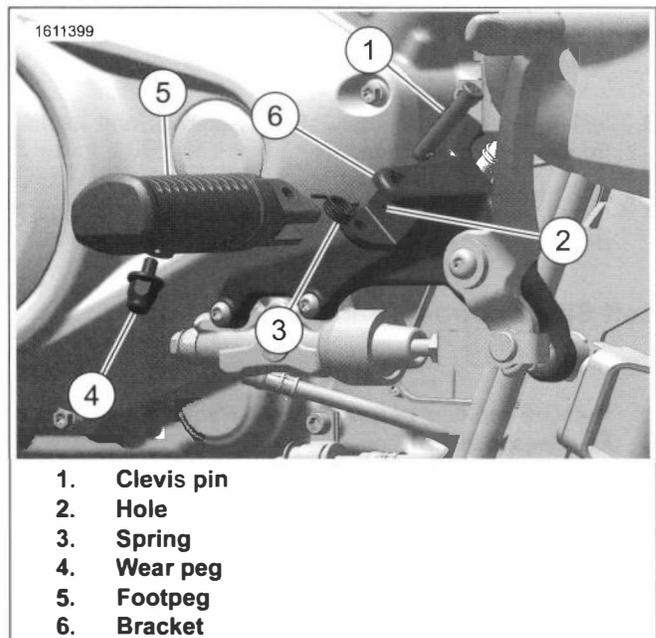

Figure 3-97. Rider Footpeg
1. See Figure 3-97. Depress spring loaded detent and remove clevis pin (1).
2. Remove rider footpeg (5) and spring (3).
3. If required, remove the wear peg (4).
1. See Figure 3-97. Insert short leg of spring (3) into hole in footpeg (5).
2. Install long leg of spring with footpeg into hole (2) in bracket (6).
3. Install clevis pin (1).